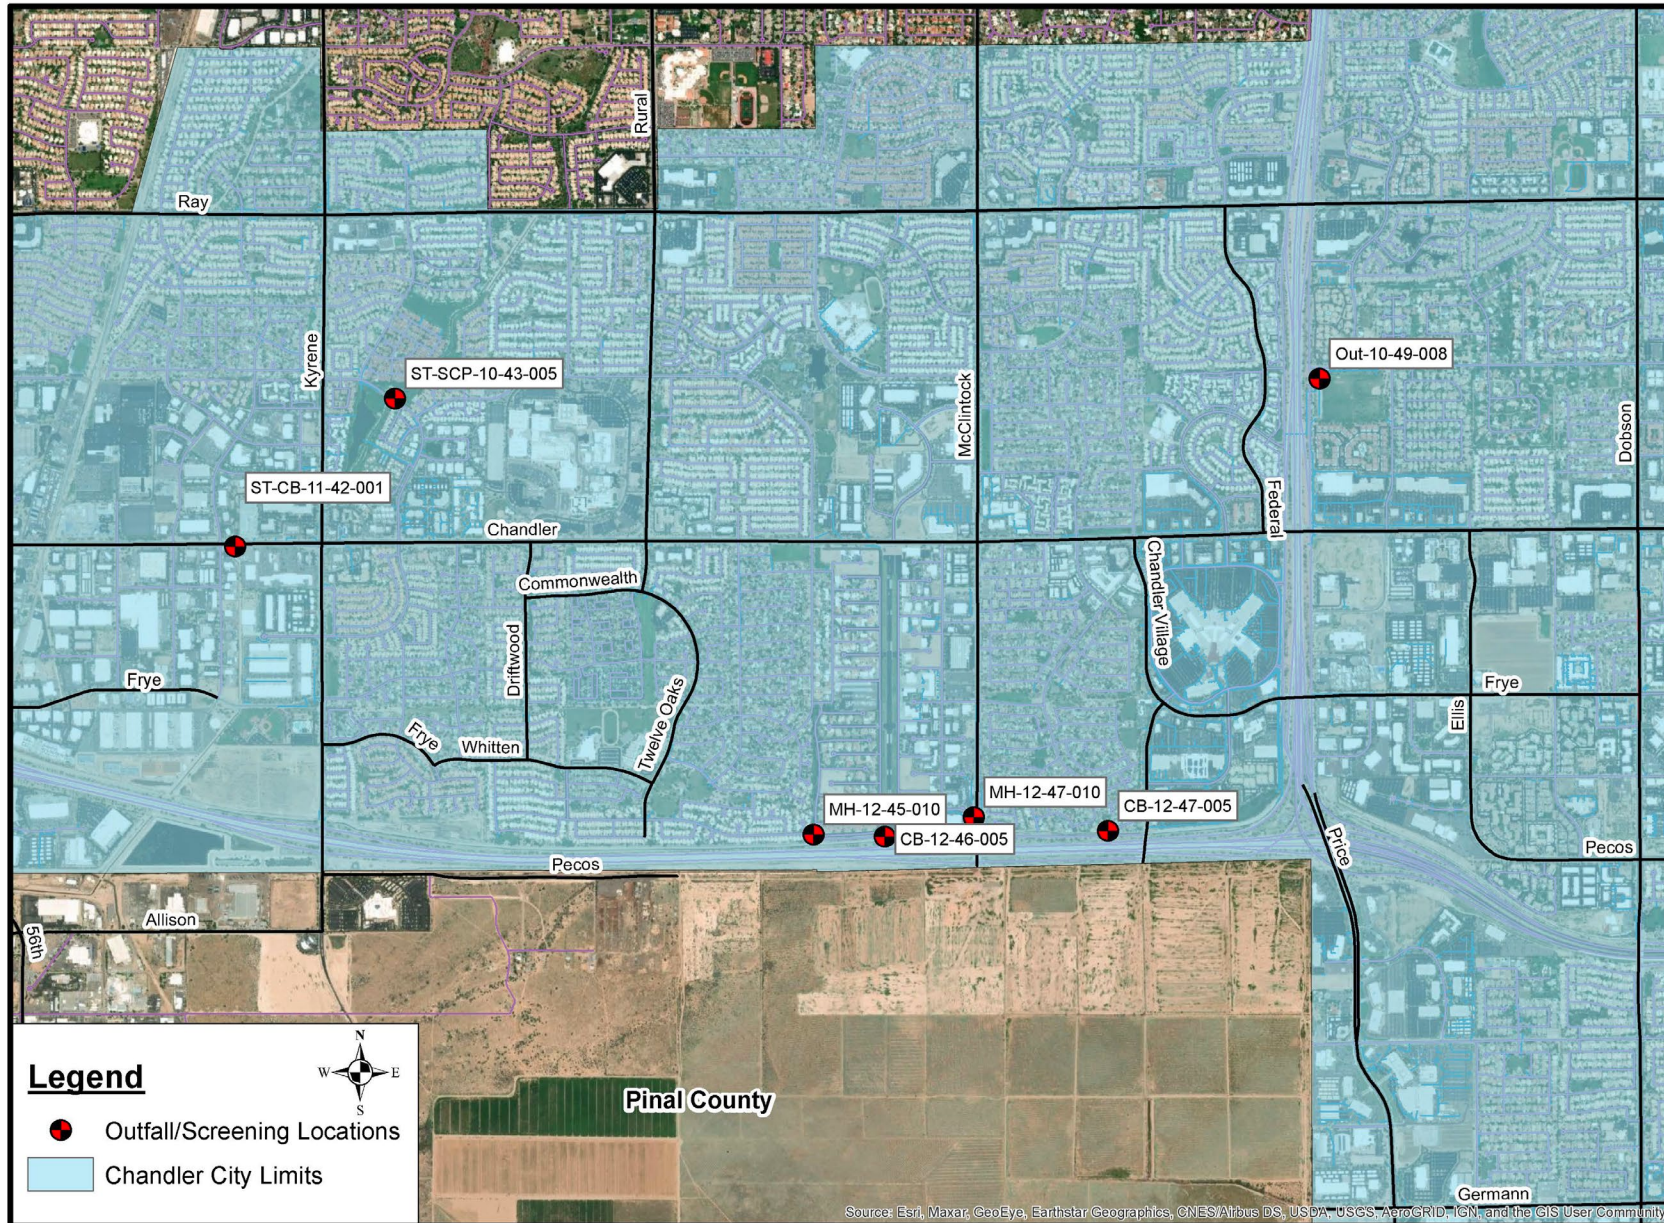

Figure 2 Identified Outfall/Screening Locations
As presented in Table 3, the City of Chandler has identified the seven (7) locations to be visually monitored as part of the IDDE program. The locations consist of a combination of outfalls and screening points such that the city meets the requirements for the number of Visual Monitoring locations (Section 6.3.7.d) where monitoring is to be performed. Per General Permit AZG2021-002 Section 6.3.7.b, at least 20% of the outfalls will be visually monitored each year. The map depicting the seven identified locations is on **Figure 2 – Outfall Map**.